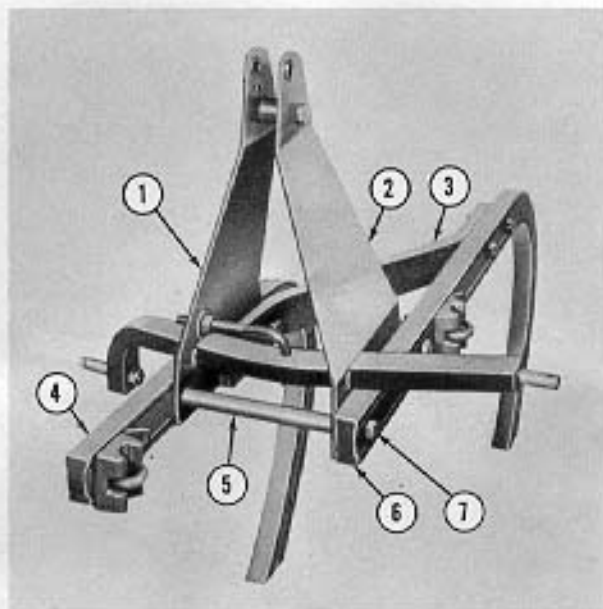
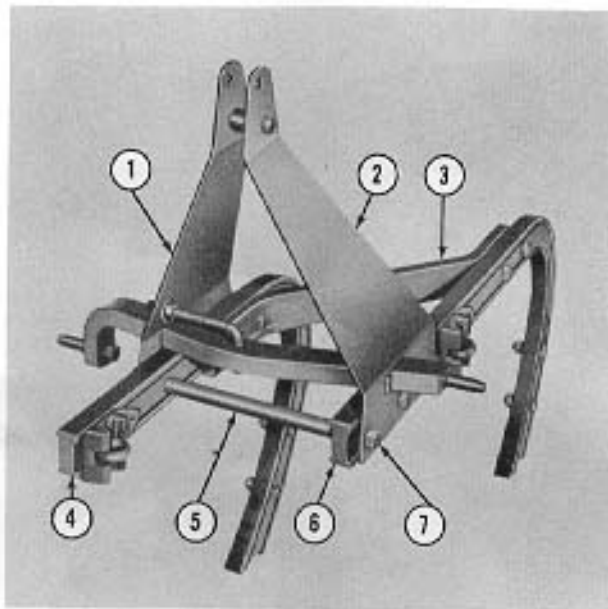
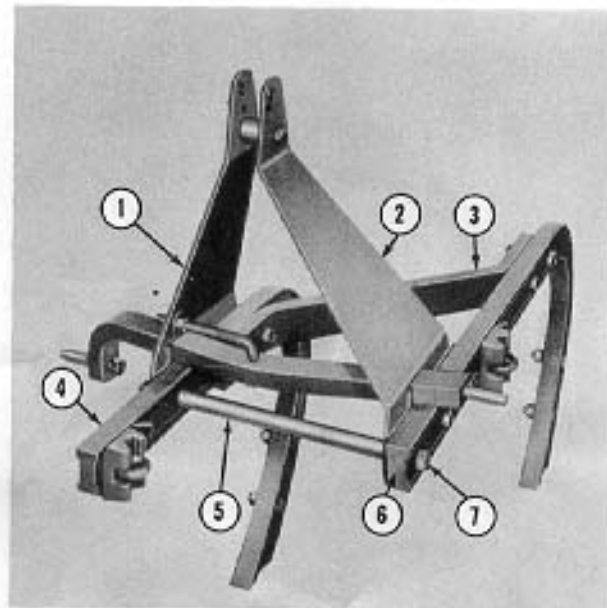

Figure 7
Figure 8
Figure 9
To change from a 10" frame to a 12" frame, attach the right "A" frame member (1), Figure 7, to the left side of the right beam (4) and use the brace (3)*, the tie rod spacer (5)*, and the tie rod bolt (7)*. Attach the left "A" frame member (2), on the right side of the beam (6).
To change from the 14" or 16" frame to a 12" frame, the left "A" frame member (2), Figure 8, will have to be replaced with (2)*, Figure 7, in addition to the above changes.
- (2), Figure 7, "A" Frame Assy., Left #104372
- (3), Figure 7, Brace#105147
- (5), Figure 7, Spacer, Tie Rod#105143
- (7), Figure 7, Bolt, Tie Rod#105102
To change from a 16" frame to a 14" frame attach the right "A" frame member (1), Figure 8, to the right side of the right beam (4) and use the brace (3)*, the tie rod spacer (5)*, and the tie rod (7)*. Attach the left "A" frame member (2), on the left side of the beam (6).
To change from the 10" or 12" frame to a 14" frame the left "A" frame member (2), Figure 7, will have to be replaced with (2)*, Figure 8, in addition to the above changes.
- (2), Figure 8, "A" Frame Assy., Left #104373
- (3), Figure 8, Brace #104331
- (5), Figure 8, Spacer, Tie Rod #104304
- (7), Figure 8, Bolt, Tie Rod #105104
To change from the 10" or 12" frame to a 16" frame the left "A" frame member (2), Figure 7, will have to be replaced with (2)*, Figure 9, in addition to the above changes.
- (2), Figure 9, "A" Frame Assy., Left #104373
- (3), Figure 9, Brace #104333
- (5), Figure 9, Spacer, Tie Rod #105145
- (7), Figure 9, Bolt, Tie Rod #105106